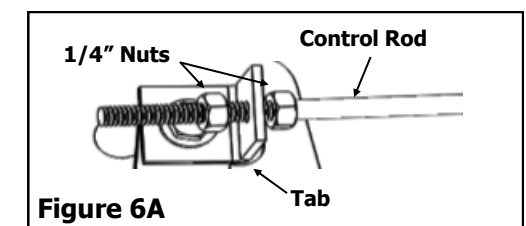
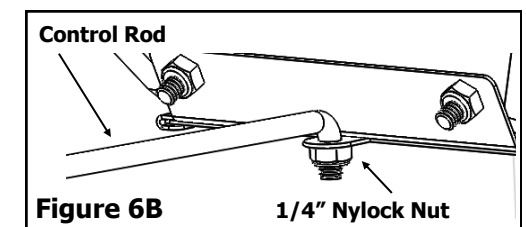

Figure 6A
Figure 6B
6. Thread a 1/4" nut onto Upper Rod then insert the Upper Rod through hole in Tab. Secure with a 1/4" nut. See Figure 6A. Remove the tape from the slide plate at the bottom of the hopper. Insert other end of Upper Rod through hole in Slide Plate and secure with a 1/4" Nylock Nut. See Figure 6B.